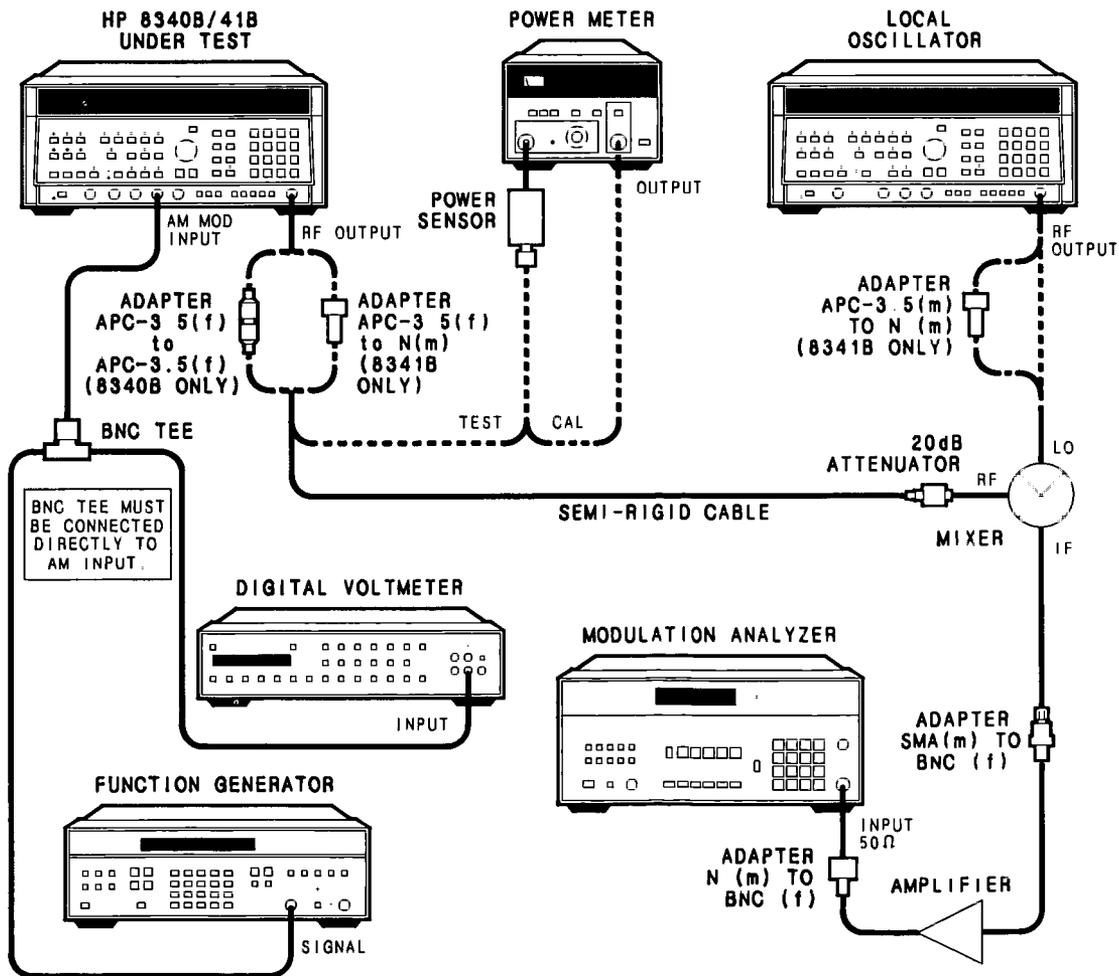

Figure 4-19. Amplitude Modulation Test Setup
1. Connect equipment as shown in Figure 4-19. Connect the mixer LO port at the LO's RF output. Connect the Power Sensor to the power meter. Allow a one hour warm up time. Set the power meter's calibration factor switch to include 1.5 GHz, then zero and calibrate the power meter. Connect the power sensor to the DUT's RF output.